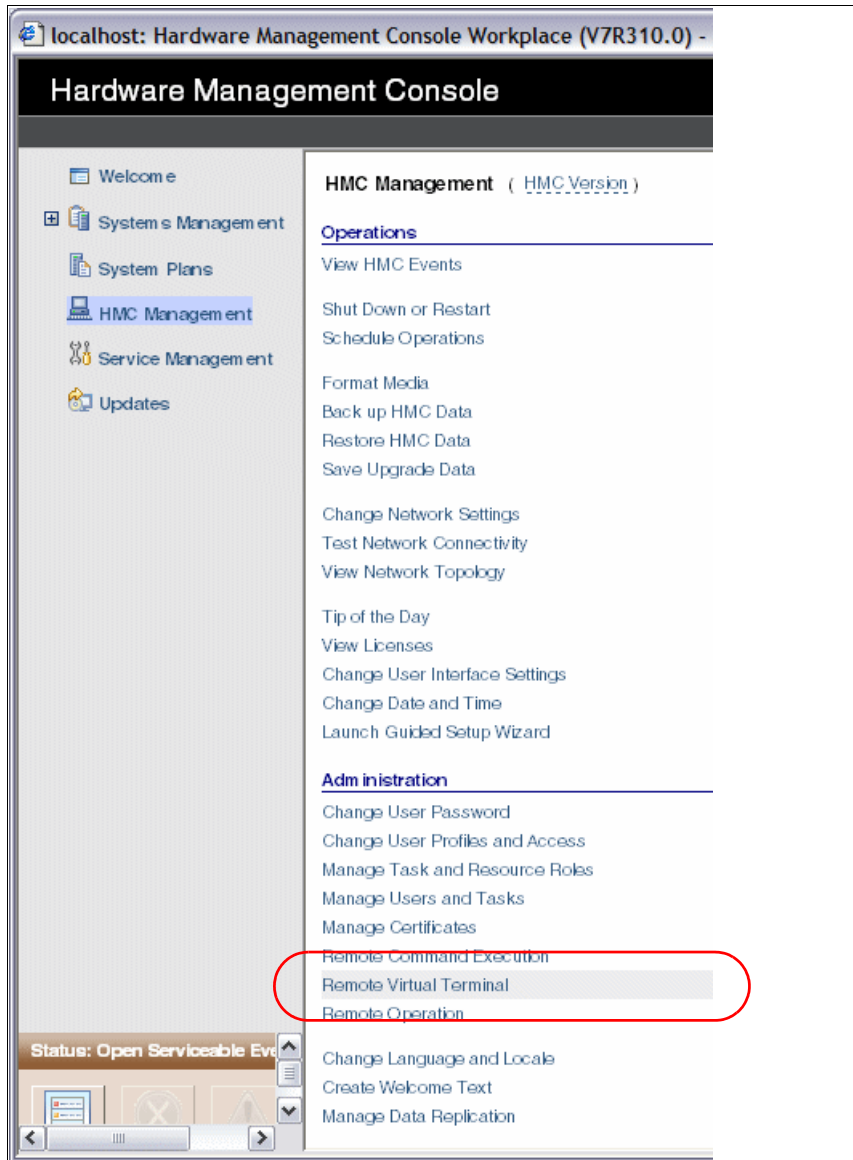

Figure C-8 HMC Management
c. Then, Select **Remote Virtual Terminal** as shown in Figure C-8.